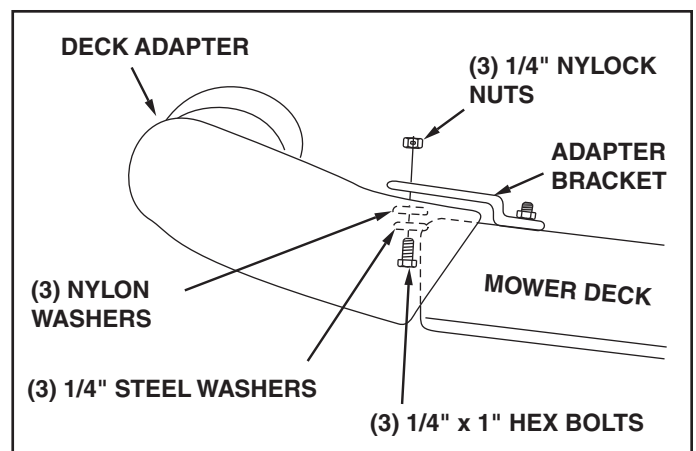

FIGURE 15
- With deck adapter positioned correctly over the discharge opening, use the adapter bracket as a template and drill three 9/32" diameter holes in the top of the deck adapter. See figure 15.
- Bolt deck adapter to bracket using three 1/4" x 1" bolts, nylon washers, 1/4" flat washers and 1/4" lock nuts. Nylon washers should be against the inside of the deck adapter. See figure 15.